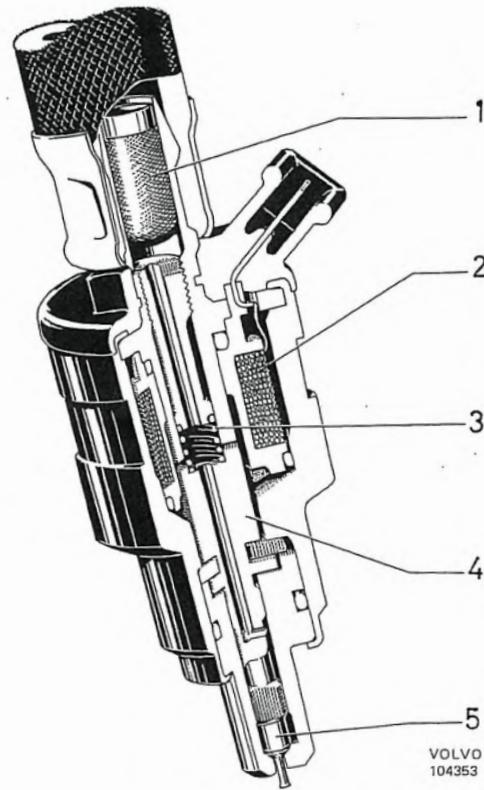

Fig. 2-68. Injector
needle, magnetic winding and return spring, see Fig. 2-68. When the magnetic winding (2) is not in circuit, the return spring (3) presses the sealing needle (5) against a seat and this shuts off the supply of fuel. As the magnetic winding receives current from the control unit, it attracts the rear section of the sealing needle (5), shaped as a magnetic armature, and this lifts the needle about 0.5 mm (0.002") from the seat and permits fuel to pass. Since the needle and opening in the valve are accurately calibrated and the fuel pressure is constant, only the valve opening interval (2-10 milliseconds = 0.002-0.01 seconds) will determine the amount of fuel injected.